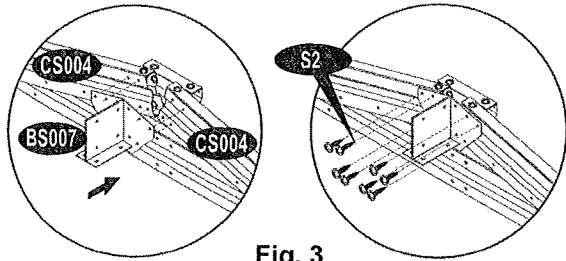

Fig. 3
**11.** Fix triangular plate inner center (BS007) and secure all with (S2) screws. See fig. 3.